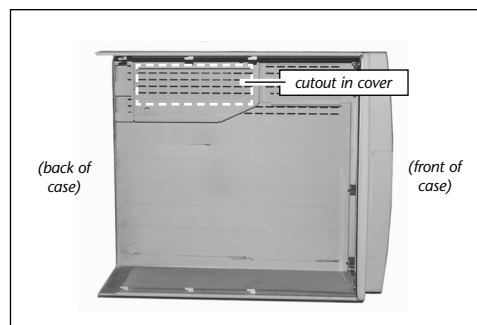

Figure 23: Location of large cutout in cover
21. Turn over the cover and locate the large cutout in the support framing (**Figure 23**). This cutout provides the necessary clearance required for the video adapter board to fit inside the computer. **Take care when removing and replacing the cover onto your computer to prevent damaging the adapter's video flex cable.**